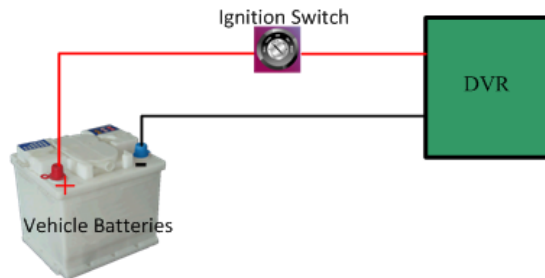

Fig 2.4 Positive pole ignition switch
- (1) Positive pole ignition switch: ignition switch is connected to the positive pole of vehicle battery and supply high signal (as in Fig 2.4)